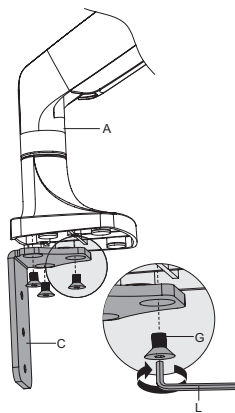

Figure 1
1. Install the C-Clamp Brace (C) to the Extension Arm (A), secure them using Bolt (G) with Allen Key (L) turning clockwise until tight, see Figure 1.